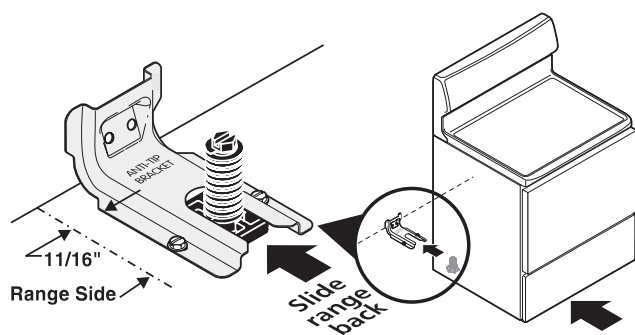

Fig. 26
- 3. Level & Position Range** - Level range by adjusting the (4) leveling legs with a wrench. Note: A min. clearance of 1/8" is required between bottom of range and leveling legs to allow room for bracket. Slide range back into position (Fig. 26). Remove lower panel or storage drawer to visually check that rear leveling leg is inserted into and fully secured by the bracket. For models with a warmer drawer or broiler compartment, grasp the top rear edge of the range and carefully attempt to tilt it forward. Use a level to check your adjustments (Fig. 27).